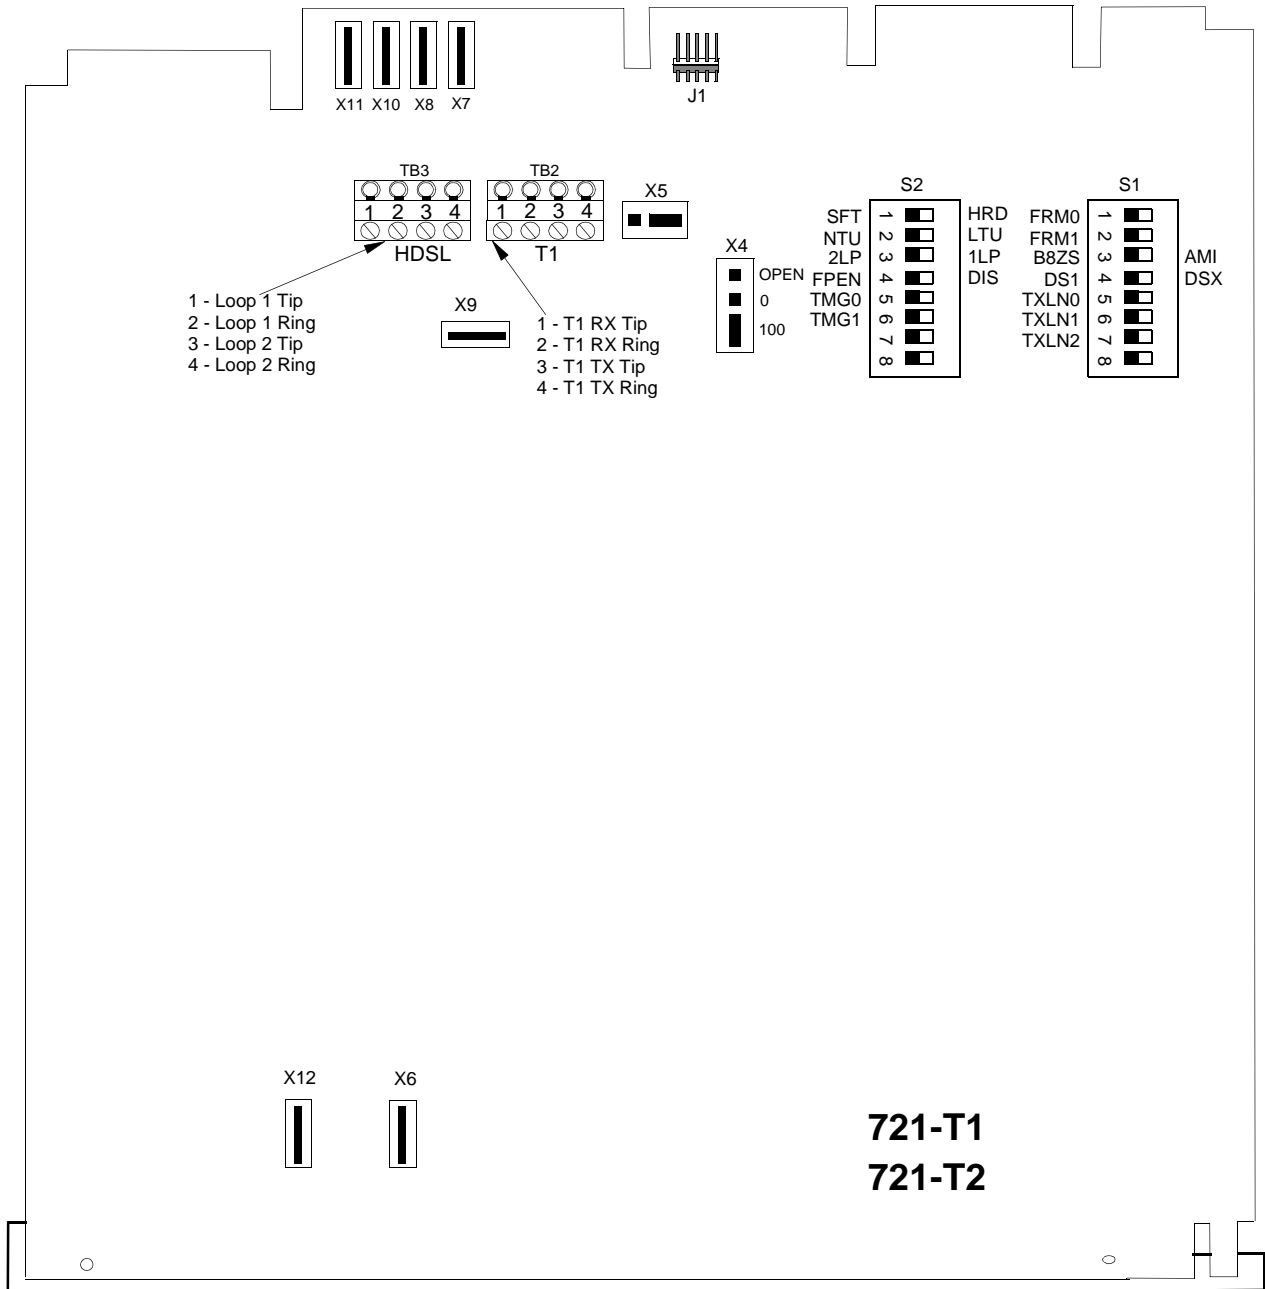

Figure 2-2 Option Switch and Jumper Locations
Setting the hard options on the cards means adjusting configuration Switches S1 and S2 and jumpers to match your network operation. *Table 2-1* explains the functions of the switches and jumpers, and *Figure 2-2* shows their locations. You can choose the hard configuration by Switch S2-1.
3. Set the remaining switches and jumpers according to *Table 2-1* and *Figure 2-2*.